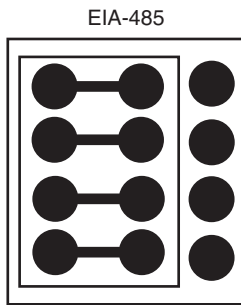

Fig. 13 — Communication Selection Jumper
8. Verify that the Communication Selection jumper is set to EIA-485. See Fig. 13.